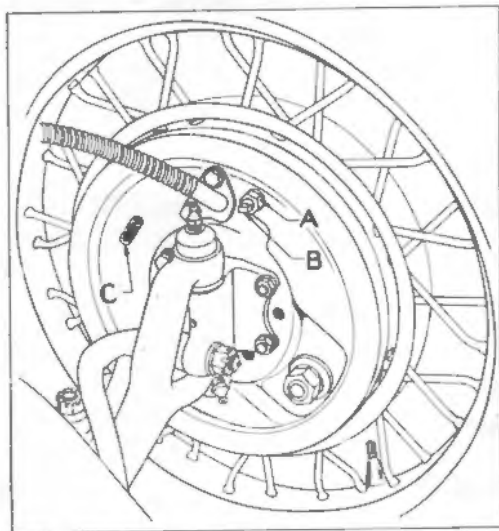

Figure 14
Jack up all four wheels clear of the ground. Remove wheels from hubs. Remove inspection hole cover on drums. Place a .010" feeler gauge through the brake drum inspection hole between the lining of the upper shoe and the drum. Loosen the eccentric lock nut (A), Figure 14, and turn the eccentric (B) in the direction of forward wheel rotation until the feeler is held snug.